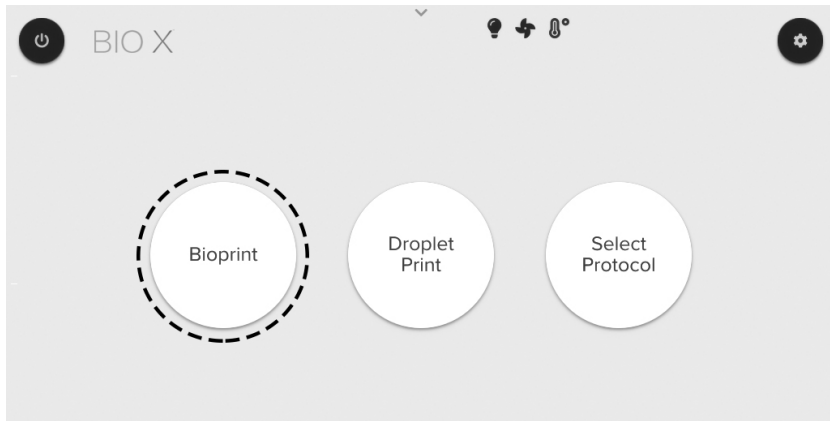

Figure 6: Select Bioprint on the Start menu and proceed to print setup.
2. Select Bioprint from the Start menu (Figure 6).